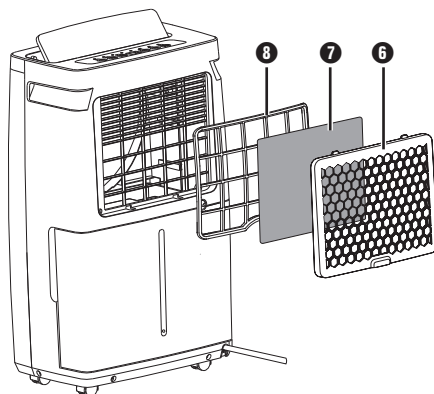

Fig. 6
- ◆ Assembly is carried out in the reverse order (see fig. 6).